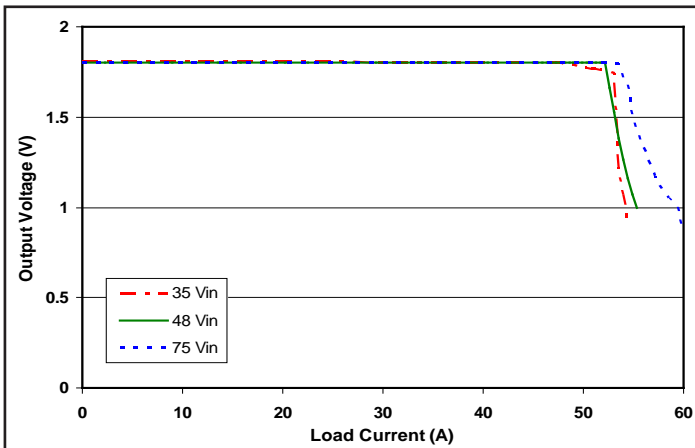

Figure 23: Output voltage vs. load current showing typical current limit curves and converter shutdown points.
**Output Current Limit:** Once the output current reaches the current-limit inception point, the converter will decrease the output voltage as the output current increases. However, once the impedance of the short across the output is small enough to make the output voltage drop below the specified Output DC Current-Limit Shutdown Voltage, the converter turns off (see Figure 23).